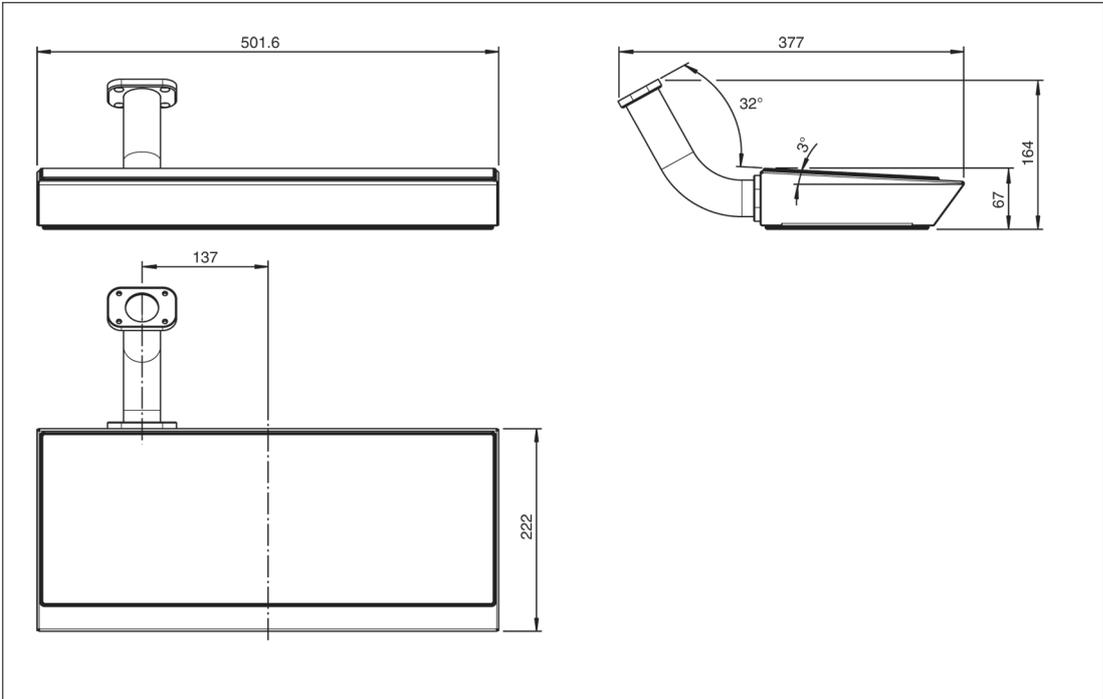

Figure 4.20 Dimensions
1. Use the drilling pattern shown in Figure 4.20.